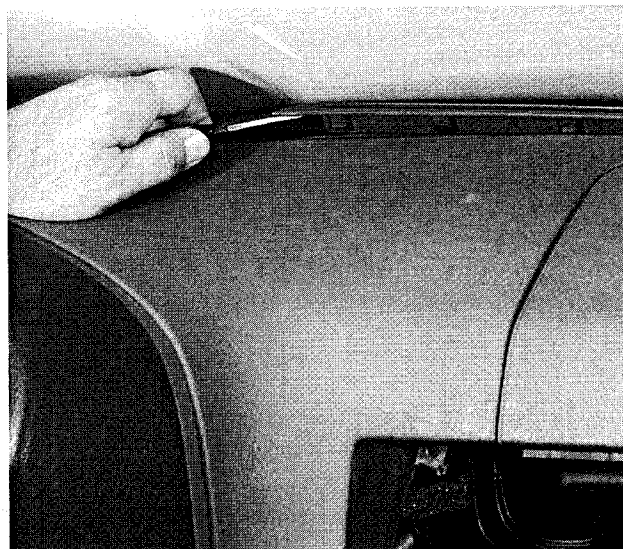

Fig. 9. Windshield defroster outlet being lifted off (arrow).
15. Carefully pry out defroster outlets (left and right sides) at base of windshield. Remove screw below each outlet. See Fig. 9.